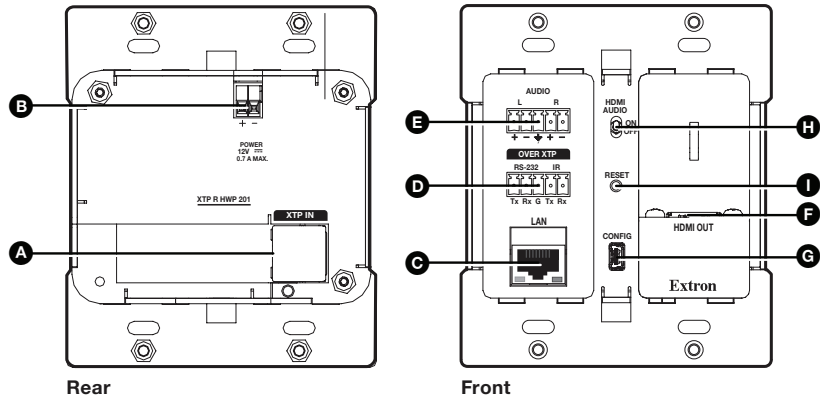

Figure 1. XTP R HWP 201 Rear (Left) and Front (Right) Panel Features
- Connect a twisted pair cable between the XTP connector (see figure 1, A) on the previous page) of the XTP R HWP 201 and an XTP transmitter.
- Connect the provided external power supply to the 2-pole captive screw connector for local 12 V power (see figure 1, B).
NOTE: For configuration, control, and firmware upgrades, connect a host device to the USB mini-B connector before attaching the faceplate (see figure 1, G, and see the *XTP R HWP 201 User Guide* for details).
For LAN models, connect a host device or control LAN or WAN to the LAN RJ-45 connector for pass-through 10/100 Base-T Ethernet communication (see figure 1, C). This is an Ethernet pass-through port.
- To pass bidirectional serial, infrared, or other control signals, connect a control device or controllable device to the RS-232 and IR Over XTP connector (see figure 1, D). Wire the connector as shown to the right.
- Connect a balanced or unbalanced, stereo or mono audio output device to the 3.5 mm, 5-pole captive screw connector (see figure 1, E) for 2-channel stereo analog audio.
- Connect a digital video display to the female HDMI connector (see figure 1, F).
After the receiver and all connected devices are properly connected and powered on, the system is fully operational. To configure the receiver, connect a host device to the front panel USB configuration port (see figure 1, G). On the host device, use the Extron System Configuration Software or SIS commands in DataViewer (see the *XTP R HWP 201 User Guide* at www.extron.com for more information).